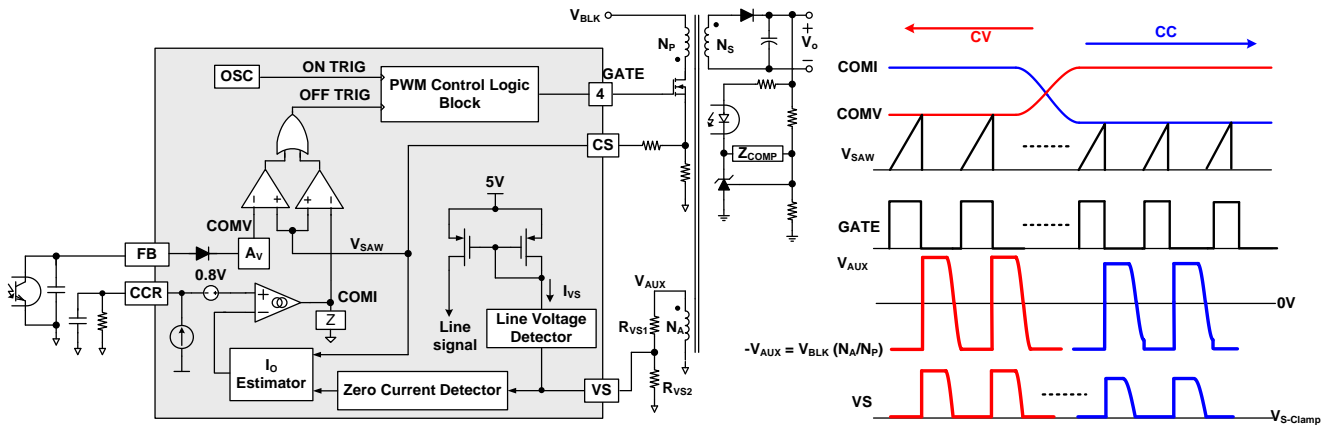
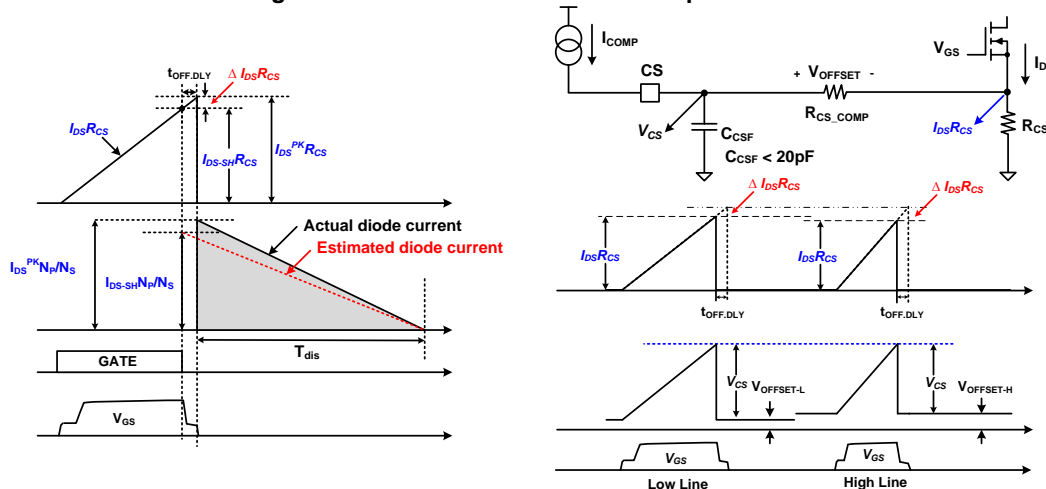

Figure 27 Simplified PWM Control Circuit and PWM Operation for CV/CC Regulation
Figure 29 Effect of MOSFET Turn-off Delay and Line Voltage Compensation
The FAN604S indirectly senses the line voltage through the VS pin while the MOSFET is turned on, as illustrated in Figure 27. MOSFET turn-on period, the auxiliary winding voltage, V_{AUX} , is proportional to the input bulk capacitor voltage, V_{BLK} , due to the transformer coupling between the primary and auxiliary windings. During the MOSFET conduction time, the line voltage detector clamps the VS pin voltage to $V_{S-Clamp}$ (0 V), and then the current I_{VS} flowing out of VS pin is expressed as:
Figure 27 shows a simplified CV / CC PWM control circuit of the FAN604S. The Constant Voltage (CV) regulation is implemented in the same manner as the conventional isolated power supply, where the output voltage is sensed using a voltage divider and compared with the internal reference of the shunt regulator to generate a compensation signal. The compensation signal is transferred to the primary side through an opto-coupler and scaled down by attenuator A_V to generate a COMV signal. This COMV signal is applied to the PWM comparator to determine the duty cycle.
These two control signals, COMV and COMI, are compared with an internal sawtooth waveform (V_{SAW}) by two PWM comparators to determine the duty cycle. Figure 27 illustrates the outputs of two comparators, combined with an OR gate, to determine the MOSFET turn-off instant. Either of COMV or COMI, the lower signal determines the duty cycle. During CV regulation, COMV determines the duty cycle while COMI is saturated to HIGH level. During CC regulation, COMI determines the duty cycle while COMV is saturated to HIGH level.
The output current estimation is also affected by the turn-off delay of the MOSFET as illustrated in Figure 29. The actual MOSFET's turn-off time is delayed due to the MOSFET gate charge and gate driver's capability, resulting in peak current detection error as
Where L_m is the transformer's primary side magnetizing inductance. Since the output current error is proportional to the line voltage, the FAN604S incorporates line voltage compensation to improve output current estimation accuracy. Line information is obtained through the line voltage detector as shown in Figure 27. I_{COMP} is an internal current source, which is proportional to line voltage. The line compensation gain is programmed by using CS pin series resistor, R_{CS_COMP}, depending on the MOSFET turn-off delay, t_{OFF_DLY}. I_{COMP} creates a voltage drop, V_{OFFSET}, across R_{CS_COMP}. This line compensation offset is proportional to the DC link capacitor voltage, V_{BLK}, and turn-off delay, t_{OFF_DLY}. Figure 29 demonstrates the effect of the line compensation.